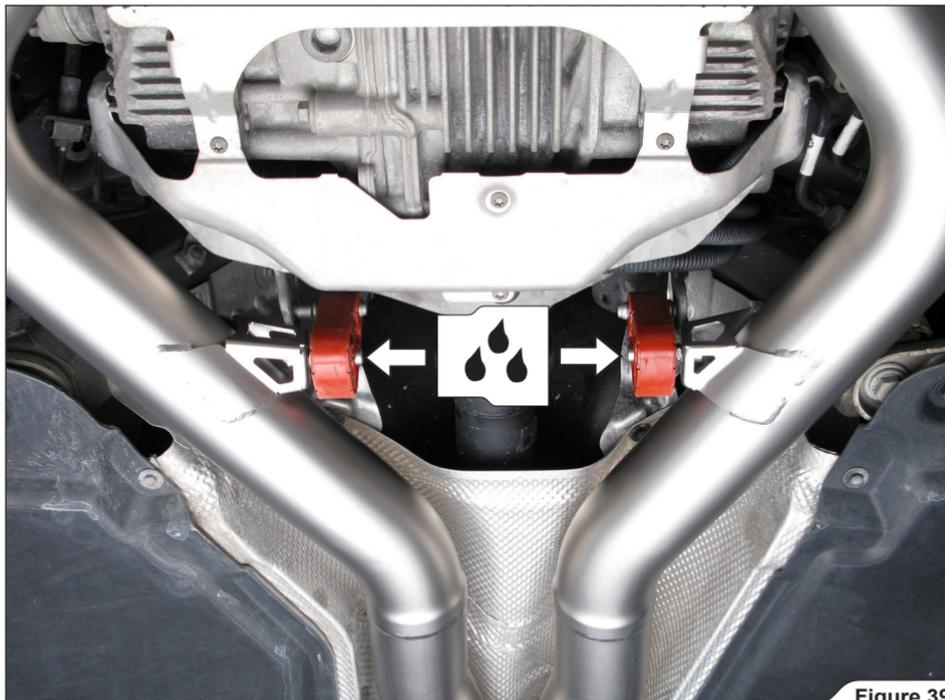

Figure 39
17. Attach the original rubber brackets onto the Akrapovič collector (**Figure 39**).